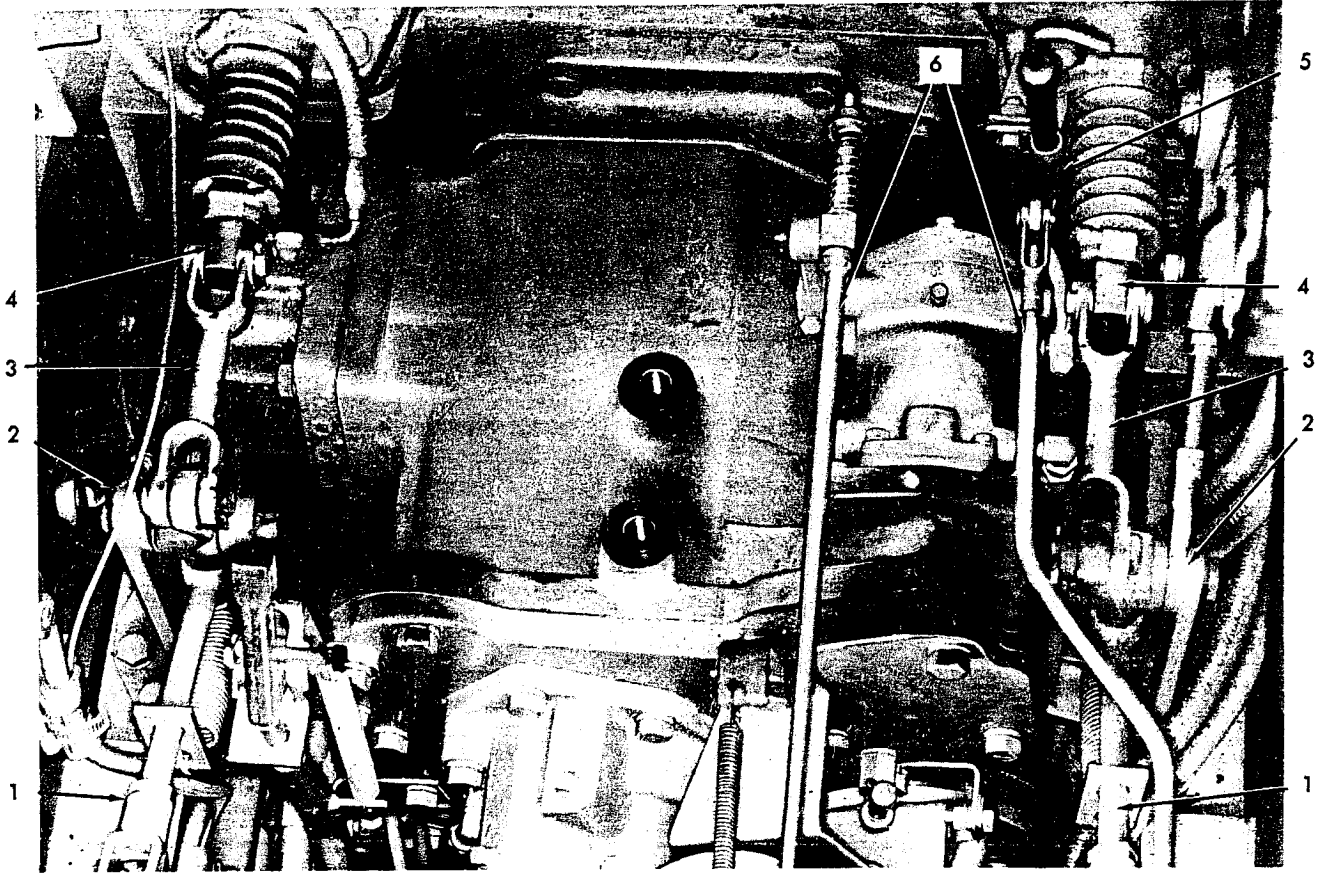

Fig. 23 -- Transmission Installed After Removal of Steering Lever Bracket
5. Disconnect and remove travel speed governor control rods, Fig. 23, (if so equipped). Identify and disconnect oil lines from oil filter; remove filter and mounting bracket.
6. Remove rear pin from brake control rear rods, Fig. 23 (3); remove brake pedal, control rods, and bellcrank bracket (each side) as an assembly. Pull spool from each brake valve.
8. Remove universal joint; disconnect oil lines from push-start pump and remove pump (if so equipped). Swing oil level gauge tube, Fig. 23, aside for clearance.